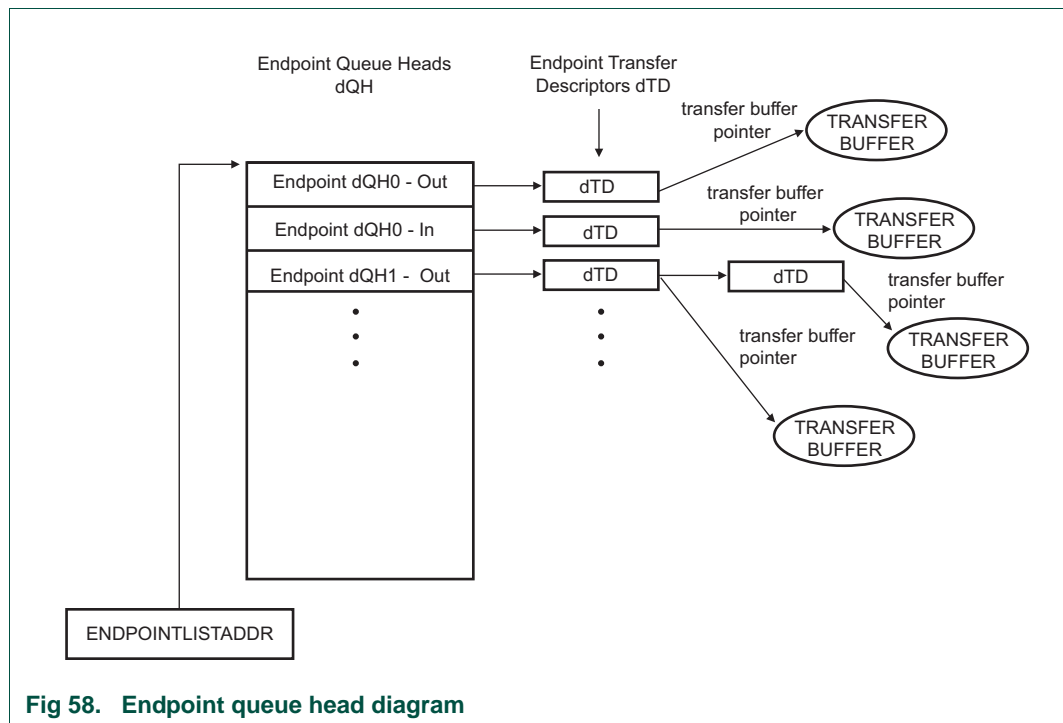

Fig 58. Endpoint queue head diagram
The device queue head (dQH) points to the linked list of transfer tasks, each depicted by the device Transfer Descriptor (dTD). An area of memory pointed to by `ENDPOINTLISTADDR` contains a group of all dQH's in a sequential list as shown in Figure 58. The even elements in the list of dQH's are used for receive endpoints (OUT) and the odd elements are used for transmit endpoints (IN). Device transfer descriptors are linked head to tail starting at the queue head and ending at a terminate bit. Once the dTD has been retired, it will no longer be part of the linked list from the queue head. Therefore, software is required to track all transfer descriptors since pointers will no longer exist within the queue head once the dTD is retired (see Section 23.10.11.1).